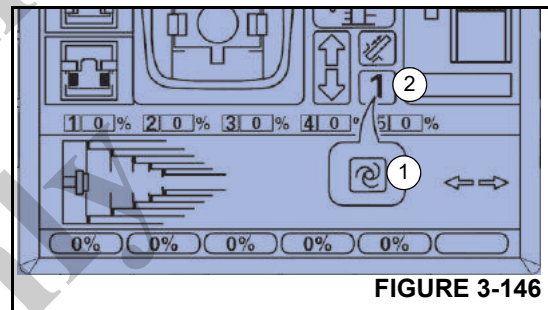

FIGURE 3-146
- Move the control lever to the zero position. The display (Figure 3-146) changes from the teleautomation icon (1) to the section number icon (2). Teleautomation is switched off.